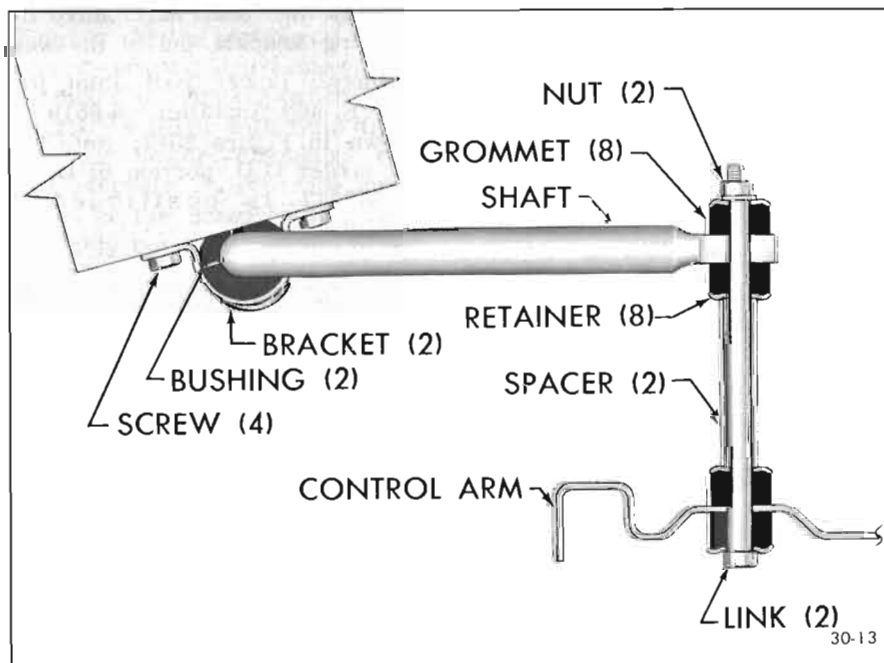

Figure 30-13—Stabilizer Link Installation
- Disconnect stabilizer link from lower control arm. See Figure 30-13.
10. Connect stabilizer link as shown in Figure 30-13. Reinstall wheel with hub and drum assembly. Adjust bearing as described in Group 100.
1. Remove nut from upper end of link. Remove link, spacer, retainers and grommets. See Figure 30-13.